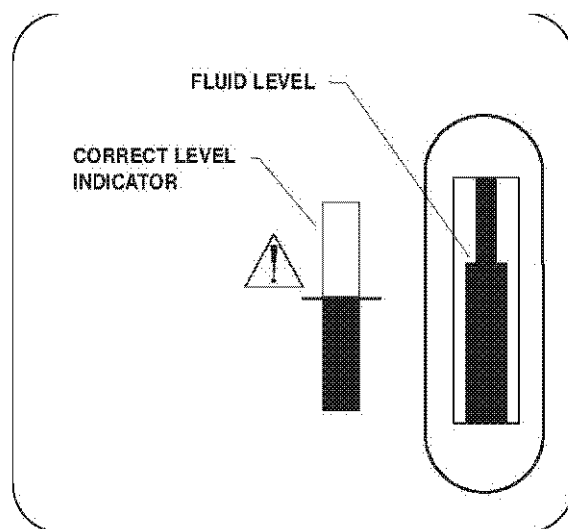

Figure 4-1. Internal Coolant Level Indicator
4. Check the sight gauge on the left side of the Control Unit to ensure that the internal coolant level is within the white open section of the correct level indicator (*Figure 4-1*).